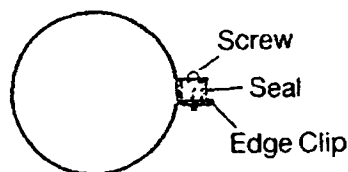

Fig. 14A
5.5.1 Assemble the large and small maintenance clips as fig. 14A.
- 5.5.21 Assemble the large and small maintenance clips as shown in fig 14A